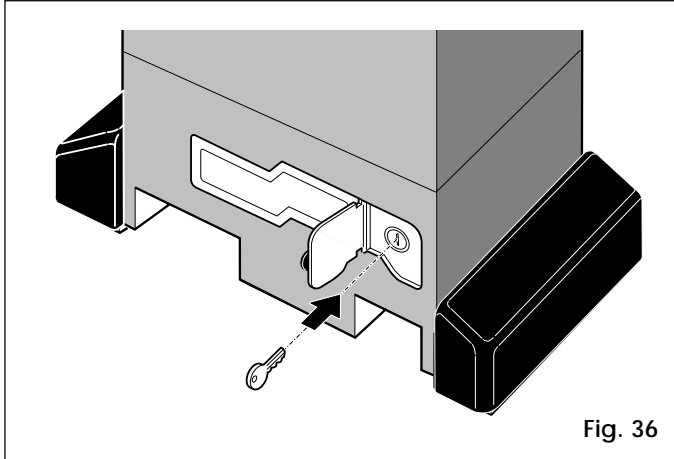

Fig. 36
- 1) Open the lock cover and insert the key supplied in the lock (Fig.36).